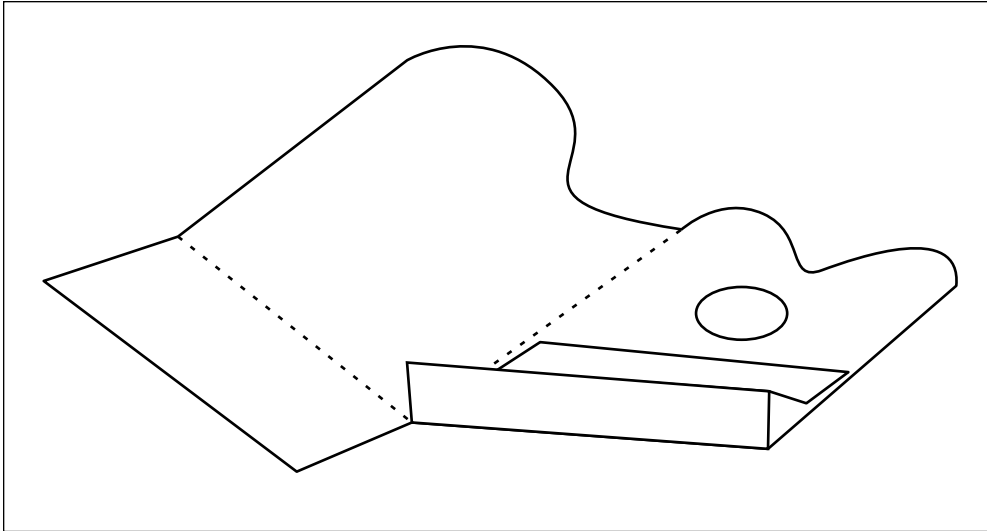

Figure 12-12:
6. Fold up the flaps as Figure 12-12 shows to make the base of the box.